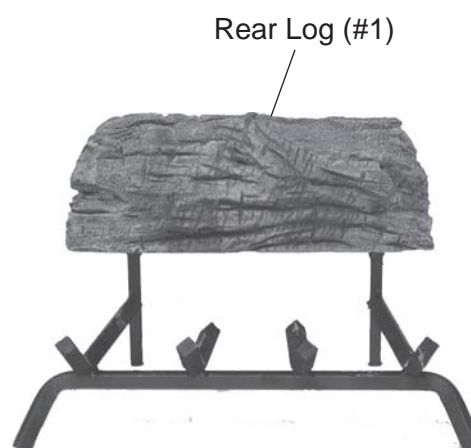

Figure 12 - Centering Rear Log (#1) on Grate Bars
2. Center rear log #1 on grate bars and flush with rear of the grate. *See Figure 12.*